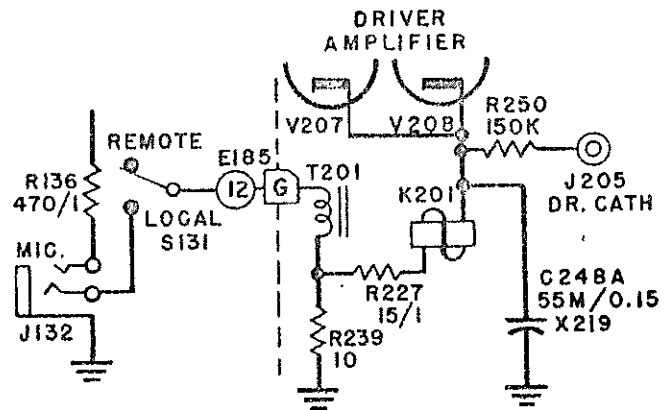

Fig. 2-12 Local Microphone d-c Feed, Simplified Schematic Circuit
(2) The local microphone is energized by direct current from a different source (see Fig. 2-12). The cathode current of driver amplifier tubes V207 and V208 reaches ground through relay K201 and voltage divider R227, R239. The voltage drop across R239 is applied through T201 and the "REMOTE-LOCAL" switch S131 to the local "MIC." jack J132. No current adjustment is provided. Capacitor C248A serves as an a-f by-pass for the driver amplifier cathode.